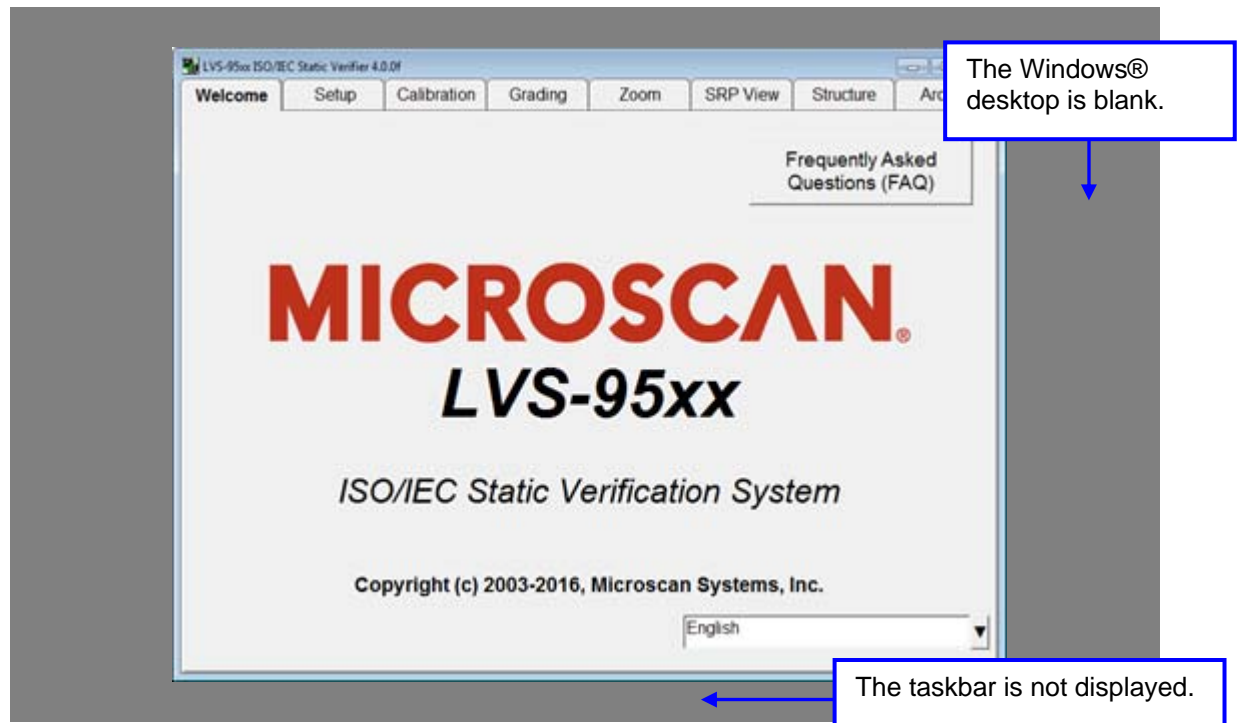

Figure 50: Example of lockdown mode
95. The computer is in lockdown mode when restarted and all Windows® desktop functionality is disabled. For example, the desktop appears blank and no taskbar appears at the bottom of the screen (Figure 50).